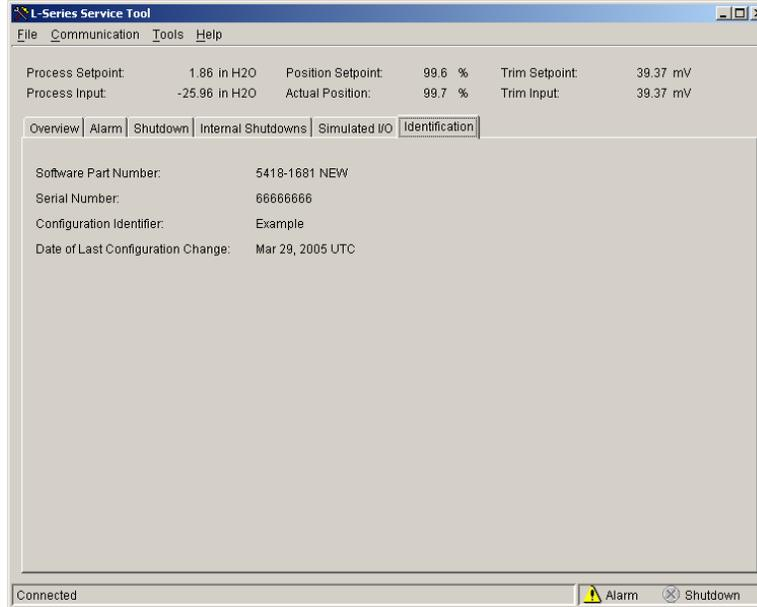

Figure 5-8. Service Tool—Identification Tab
The L-Series embedded software part number (firmware) and revision can be found on the Identification tab of the Service Tool (see Figure 5-8).
- Identification (see Figure 5-8)